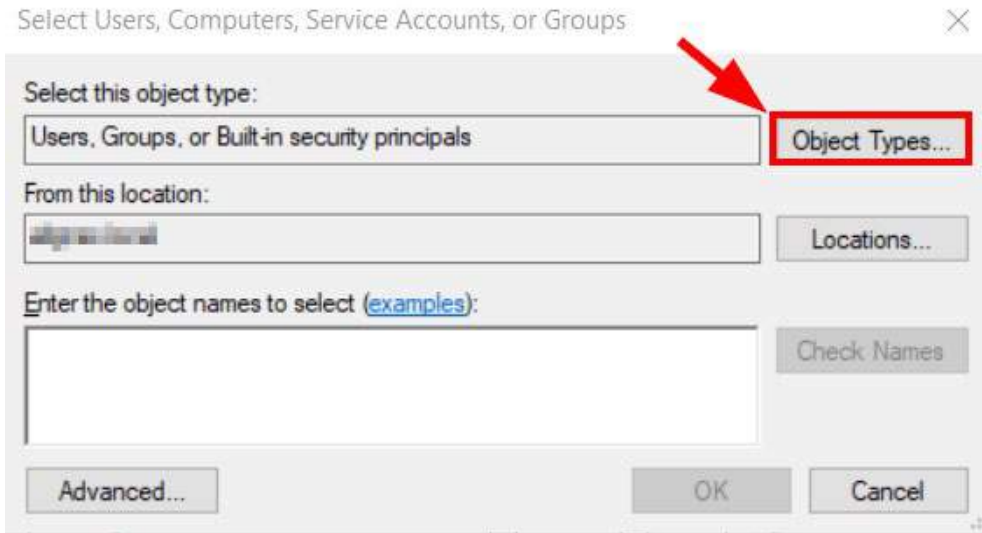

Figure 1
STEP 5: From this window (Figure 1), click **Object Types** and select computer checkbox (Figure 2):